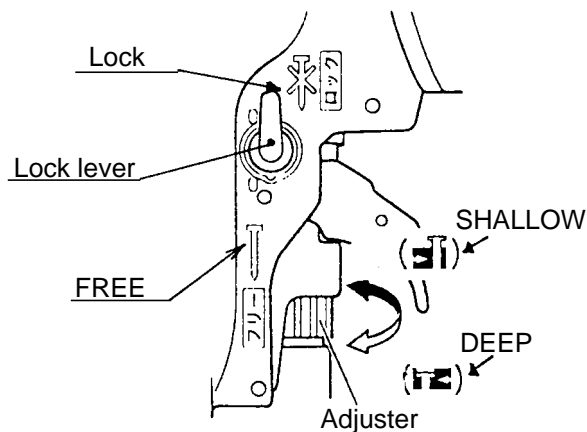

Fig. 5
* Adjusting the adjuster (Fig. 5)
- Carry out test driving. If the nails are too deep, turn the adjuster to the shallow side (SHALLOW mark). If the nail depth is too shallow, turn the adjuster to the deep side (DEEP mark) (see Figs. 5 and 6). Depth is changed 1 mm with each rotation of the adjuster.